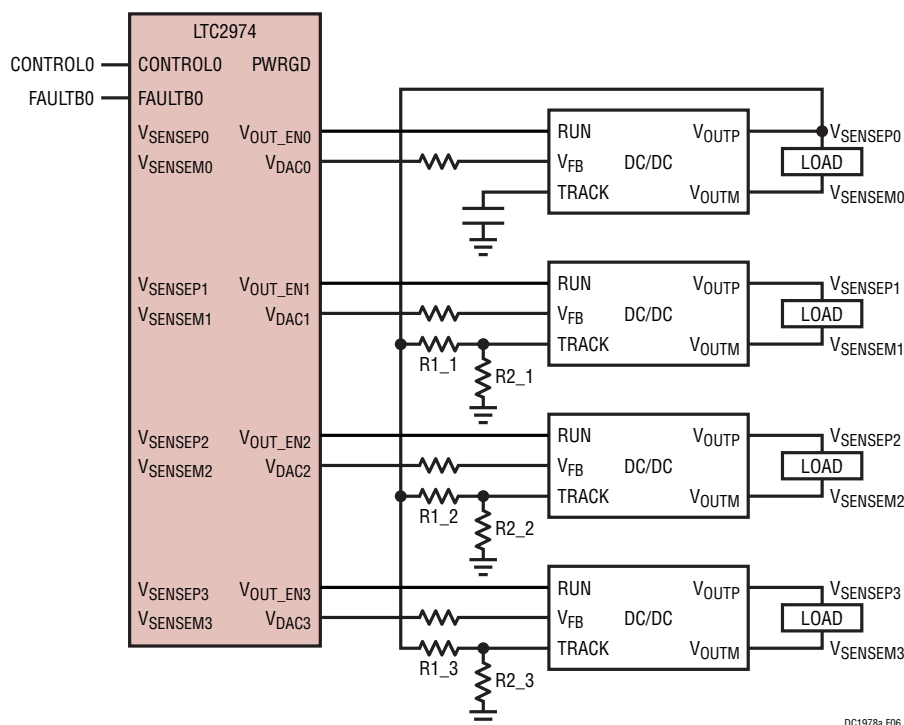

Figure 6. LTC2974 Configured to Control, Supervise and Monitor Power Supplies Equipped with Tracking Pin
The LTC2974 supports tracking power supplies that are equipped with a tracking pin and configured for tracking. A tracking power supply uses a secondary feedback terminal (TRACK) to allow its output voltage to be scaled to an external master voltage. Typically, the external voltage is generated by the supply with the highest voltage in the system, which is fed to the slave track pins (see Figure 6). Any supplies that track a master supply must be enabled before the master supply comes up and disabled after the master supply comes down. Enabling the slave supplies
1. Start with the default LTC2974 EEPROM and jumper settings for DC1978A. Set the jumpers JP1, JP2 and JP3 to $TRACK\ CH0$ position. This connects the $TRACK$ pins of the slave supply channels to the output voltage of the master channel through resistive dividers (see Figure 6).